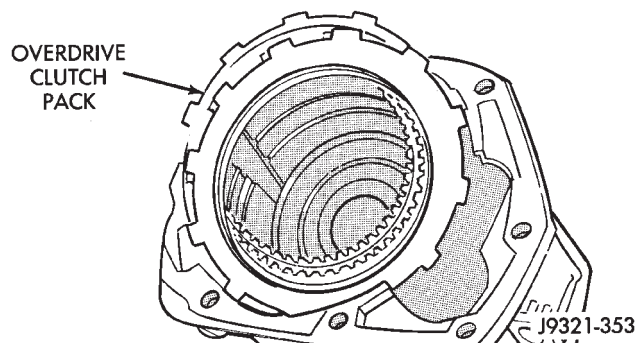

Fig. 252 Overdrive Clutch Pack Removal
- (2) Remove overdrive clutch pack (Fig. 252).